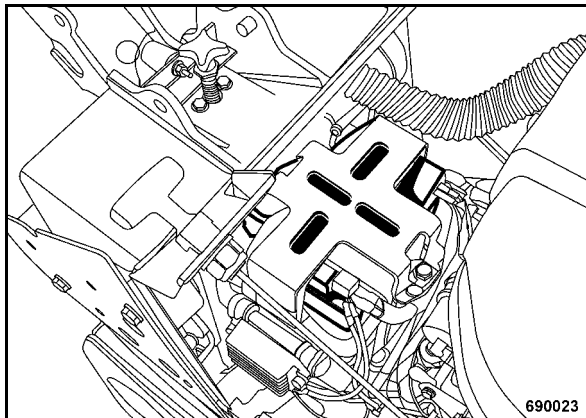

Fig. 51
- Unscrew the battery holder (Fig. 51).